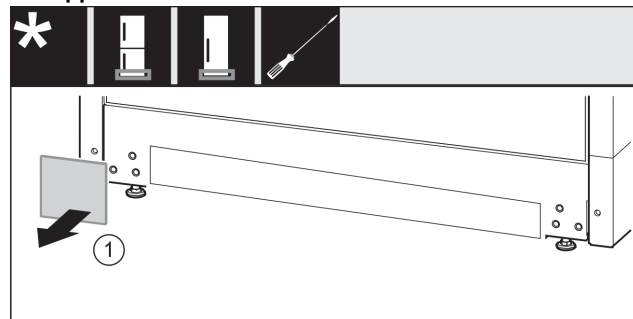

Fig. 18
- ▶ Remove the cover Fig. 18 (1).